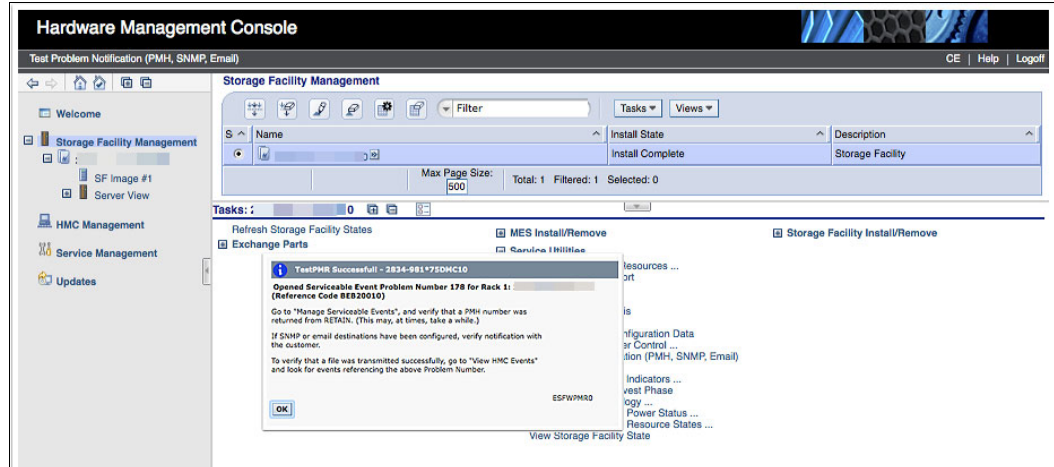

Figure 12-5 HMC SNMP trap test
5. The test generates the Service Reference Code BEB20010, and the SNMP server receives the SNMP trap notification, as shown in Figure 12-5 on page 416.